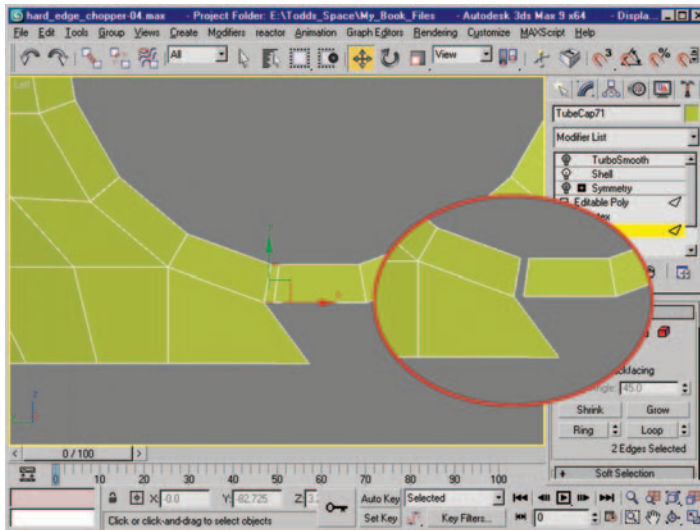

Figure 8.46 Edge selection and resulting mesh after deleting the two edges shown (in red circle).
47. Select the two edges that were just created (Figure 8.46) and delete them, leaving a new gap in the mesh (Figure 8.46, red highlight).